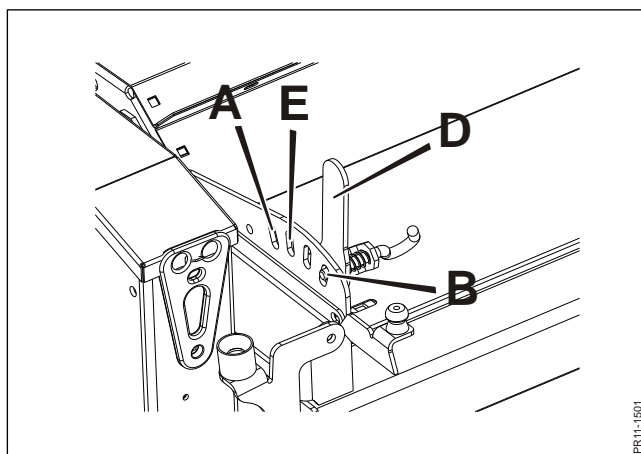

Fig. 3-12
**Fig. 3-12** The distance of the conditioner plate to the rotor is changed by moving the handle **D** to one of the other three holes in the bracket **E**. If the handle is placed in pos. (A), the distance between the conditioner plate and the conditioner fingers is shortest, in pos. (B), the distance is longest.